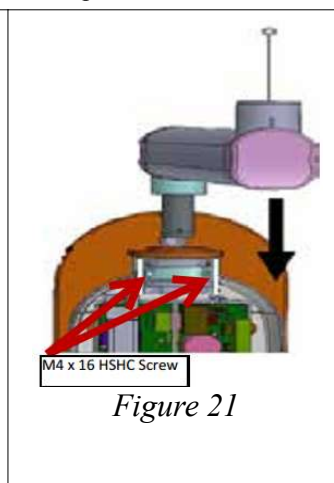

Figure 21
- Loosen the 2 no's of M4 x 16 HSHC screw at the location shown in Figure 21. by using 3mm Allen key(Ensure free movement of Friction clamp while inserting Straight Arm), Route the guide wire (straight Arm) and ground wire through the slot of Bearing Block and mount the Straight Arm on the Base unit Bearing Block.
- Tighten the 2 no's of M4 x 16 HSHC Screws at the location shown in Figure 21 by using 3mm Allen key ensuring the smooth movement of straight arm.